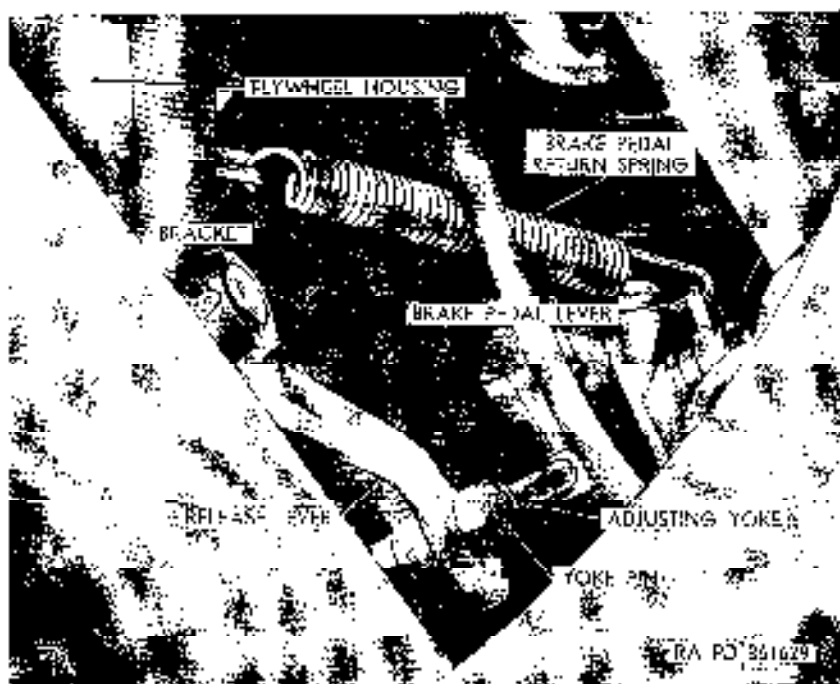

Figure 132. View of clutch linkage from under side of vehicle.
- (5) *Disconnect brake pedal return spring* (fig. 132). Disconnect brake pedal return spring from bracket on left rear side of engine flywheel housing.